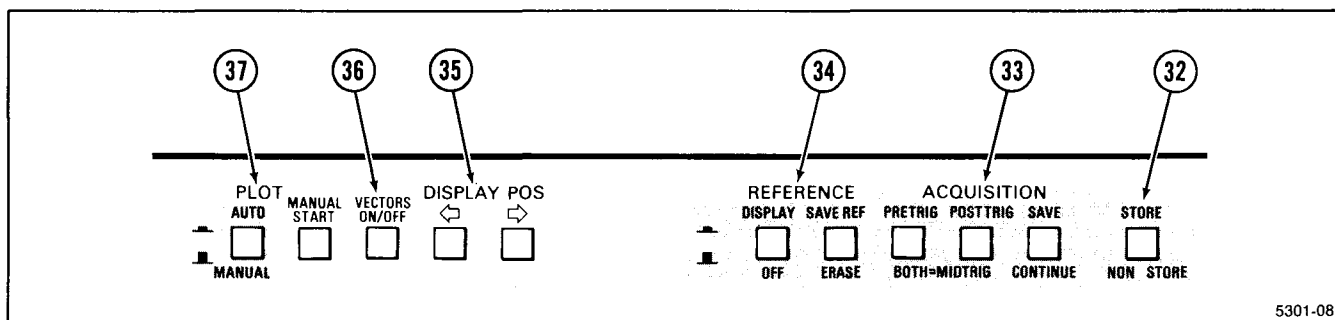

Figure 2-8. Storage controls.
See Figure 2-8 for the location of items 32 through 37.